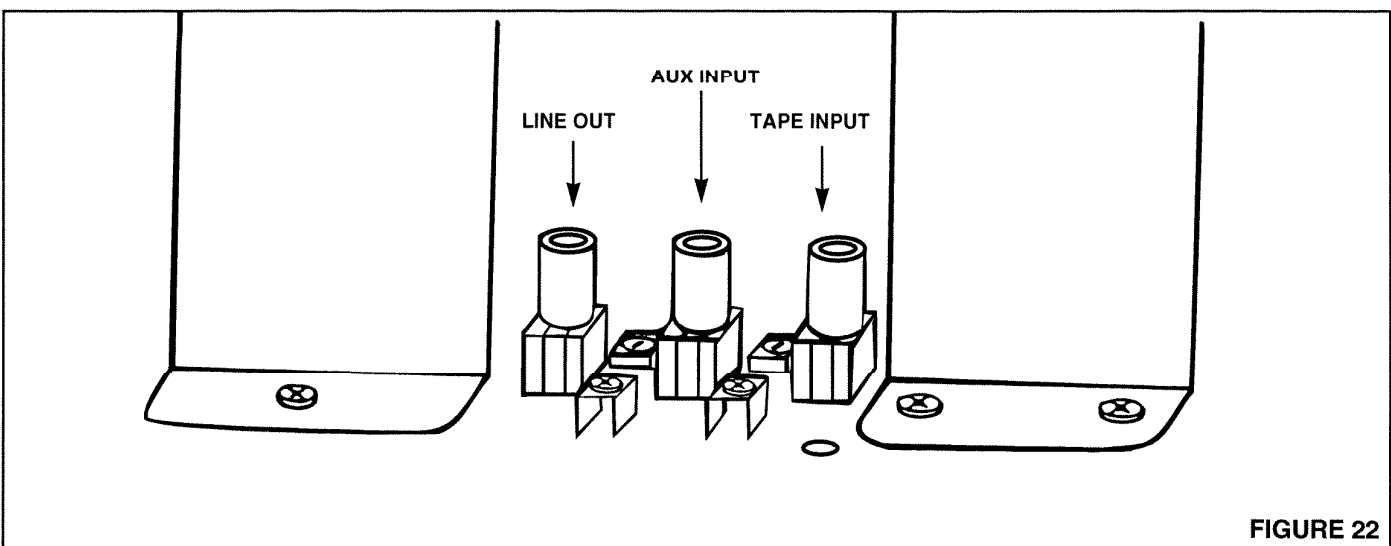

FIGURE 22
1. Refer to Figure 22. To connect an external audio source (NuTone Model CP-95 cassette, stereo system, VCR, TV, etc. with low level audio output) to the IM-4406 master station, locate the **TAPE** and **AUX**iliary inputs on the upper center of the master station's main circuit board.